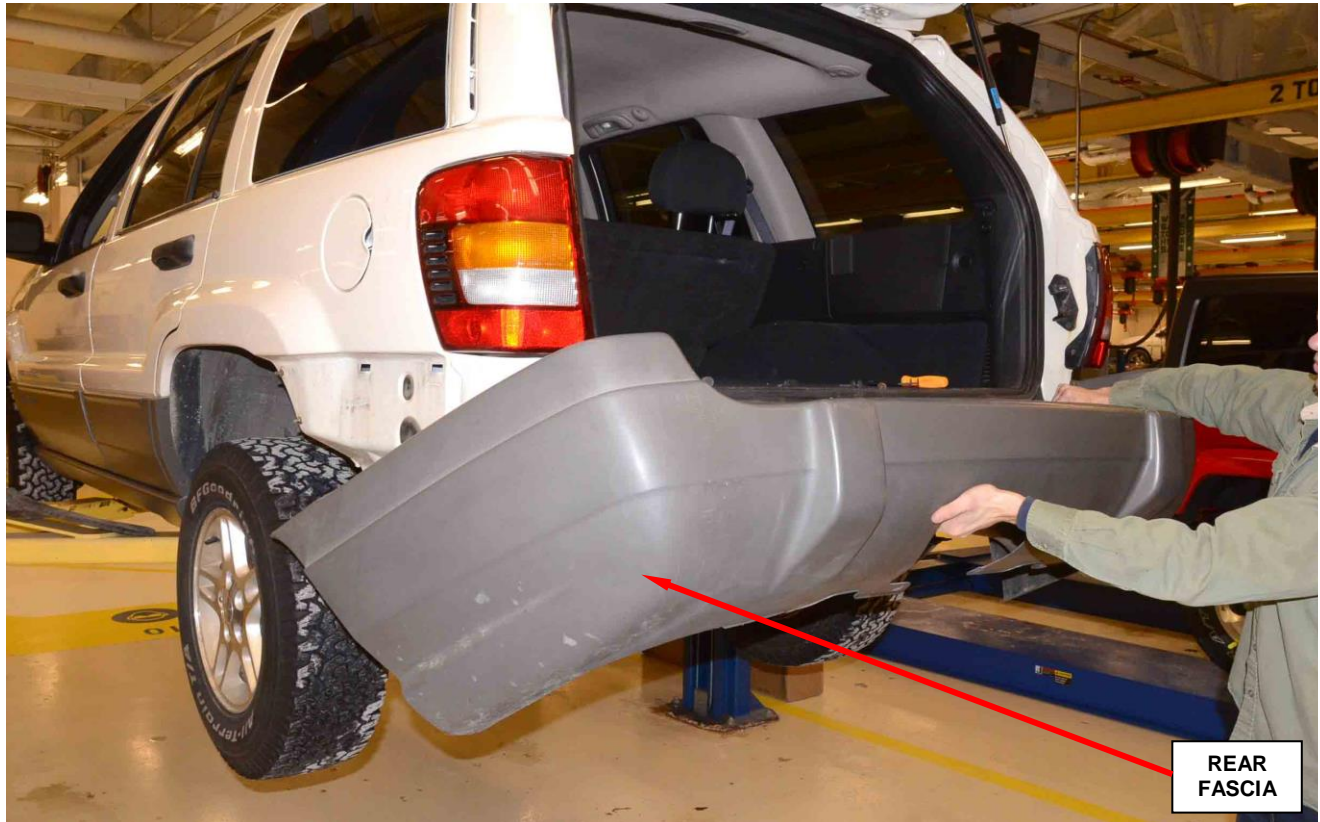

Figure 12 – Rear Fascia
18. Install the rear fascia onto the vehicle (Figure 12).